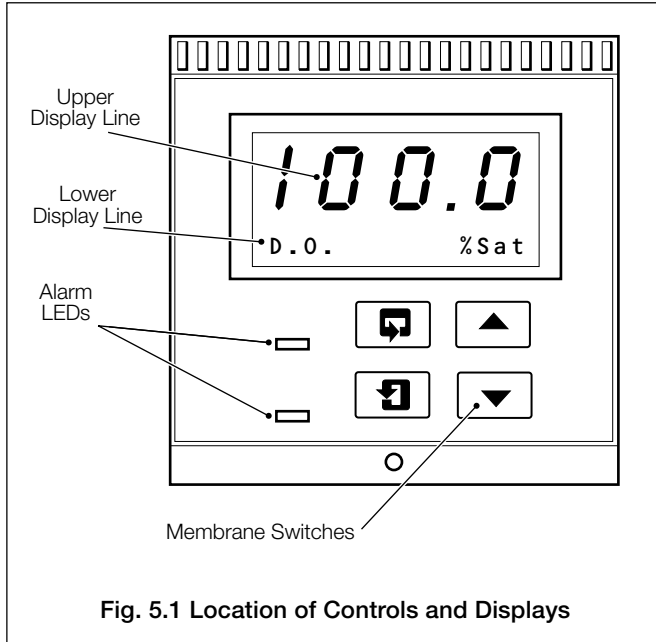

Fig. 5.1 Location of Controls and Displays
5.1 Displays – Fig. 5.1
5.2 Switch Familiarisation – Figs. 5.1 and 5.2